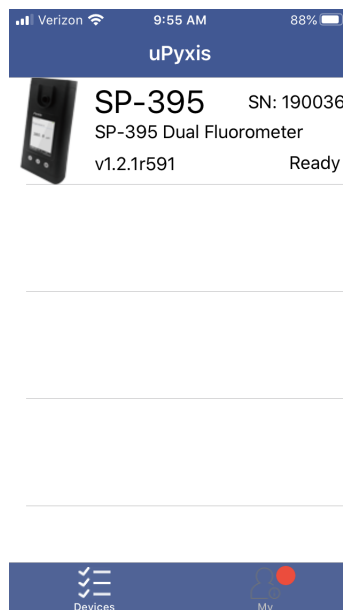

Figure 15.
4. If the connection is successful, the SP-395 and its Serial Number (SN) will be displayed (Figure 15).